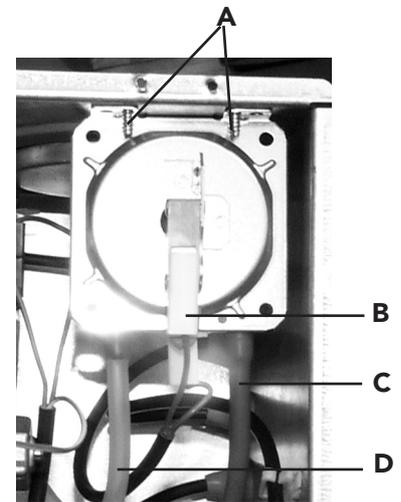

Fig. 31
**7.05 Air pressure switch (fig. 31)**
- Identify the location of thermostat from fig. 31